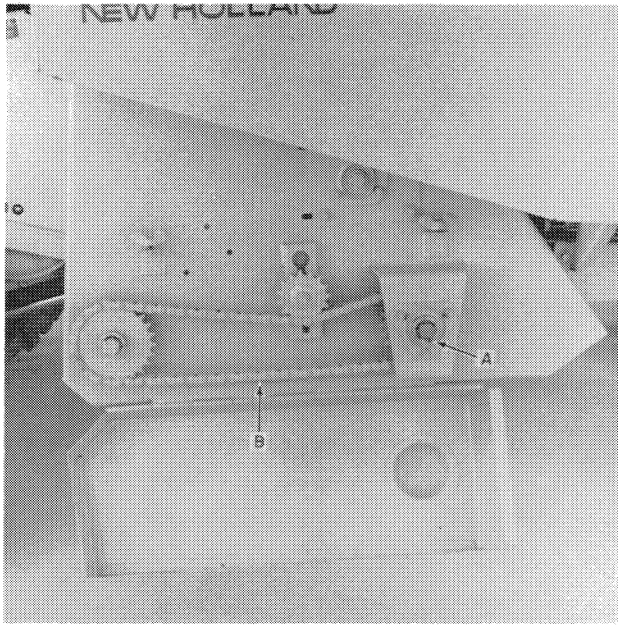
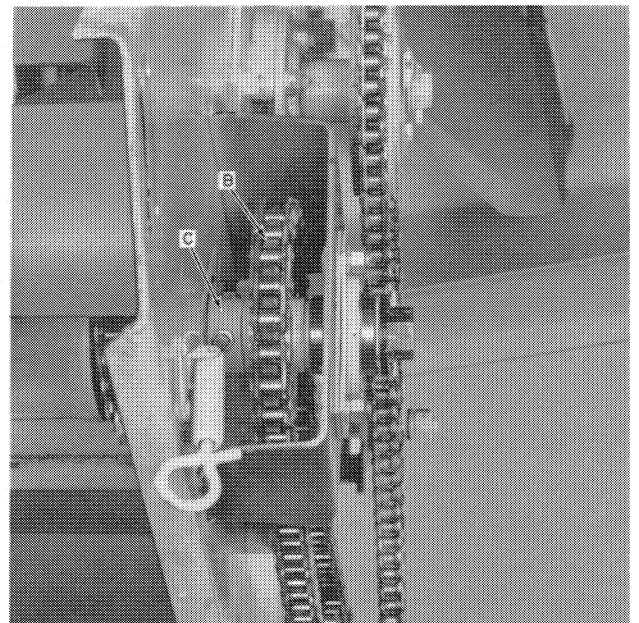
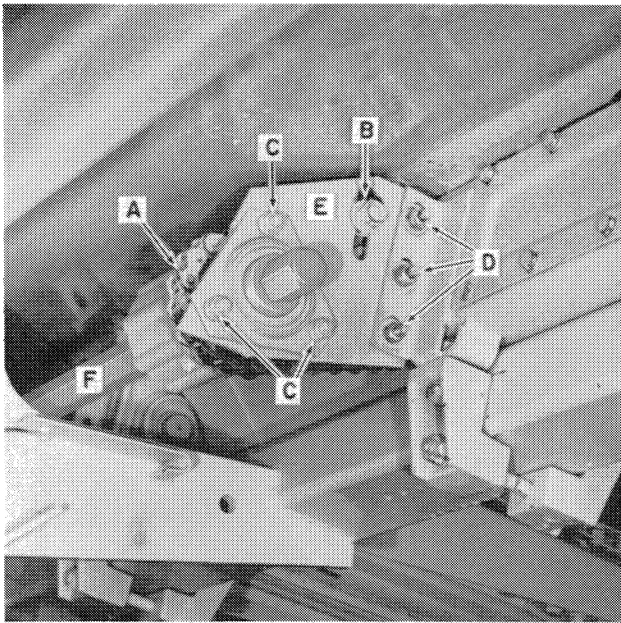

Figure 2-6
Figure 2-8
Figure 2-9
2. Remove chain, B, Figure 2-6.
3. Remove cotter pin, A, Figure 2-6 or 2-7, from the row unit drive shaft. Clean paint from hex shaft. Loosen lock collar, C, Figure 2-8.
5. Loosen cap screw, B, Figure 2-9, to relax chain tension. Disconnect the slip clutch to row unit drive chain, A. Separate the chain at the connector link.
8. Move the shaft assembly (shaft and clutches), F, Figure 2-9, toward the center of the corn head until the end of the shaft next to the drive sprocket, B, Figure 2-8, has come out of the side sheet.
9. To remove the shaft assembly, F, Figure 2-9, move the shaft down, toward the rear, and back toward the drive sprocket (outside) end of the shaft.
11. Remove the bearings next to the slip clutch, Figure 2-9.